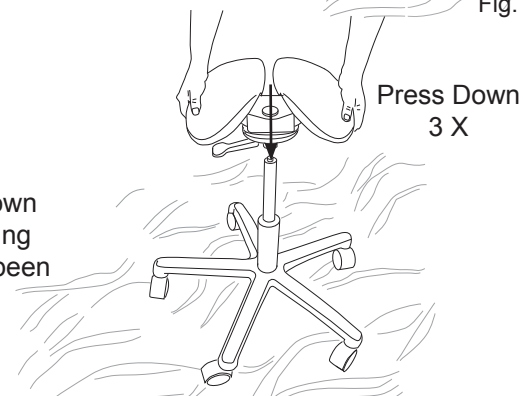

Fig. 4
4. Place Seat with Control Plate on top of Cylinder and press down firmly several times to secure components (figure 4). Packaging may be discarded once confirmed that all components have been assembled into a properly functioning stool.